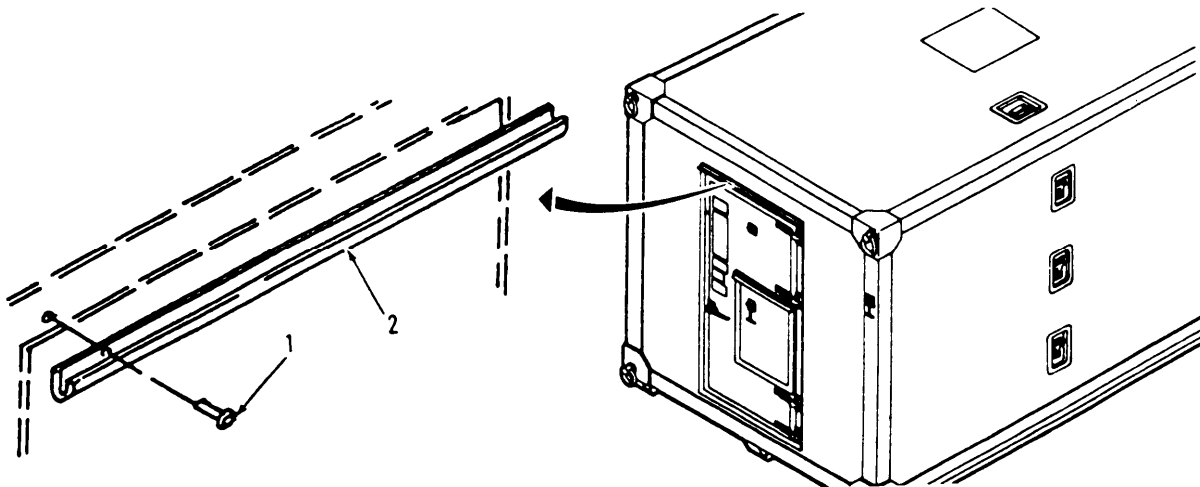

Figure 3-11. Drip Molding Removal/Installation.
- a. Inspect. (Figure 3-11)
- (1) Inspector damaged drip molding (2).
- (2) Inspector missing blind rivets (1).